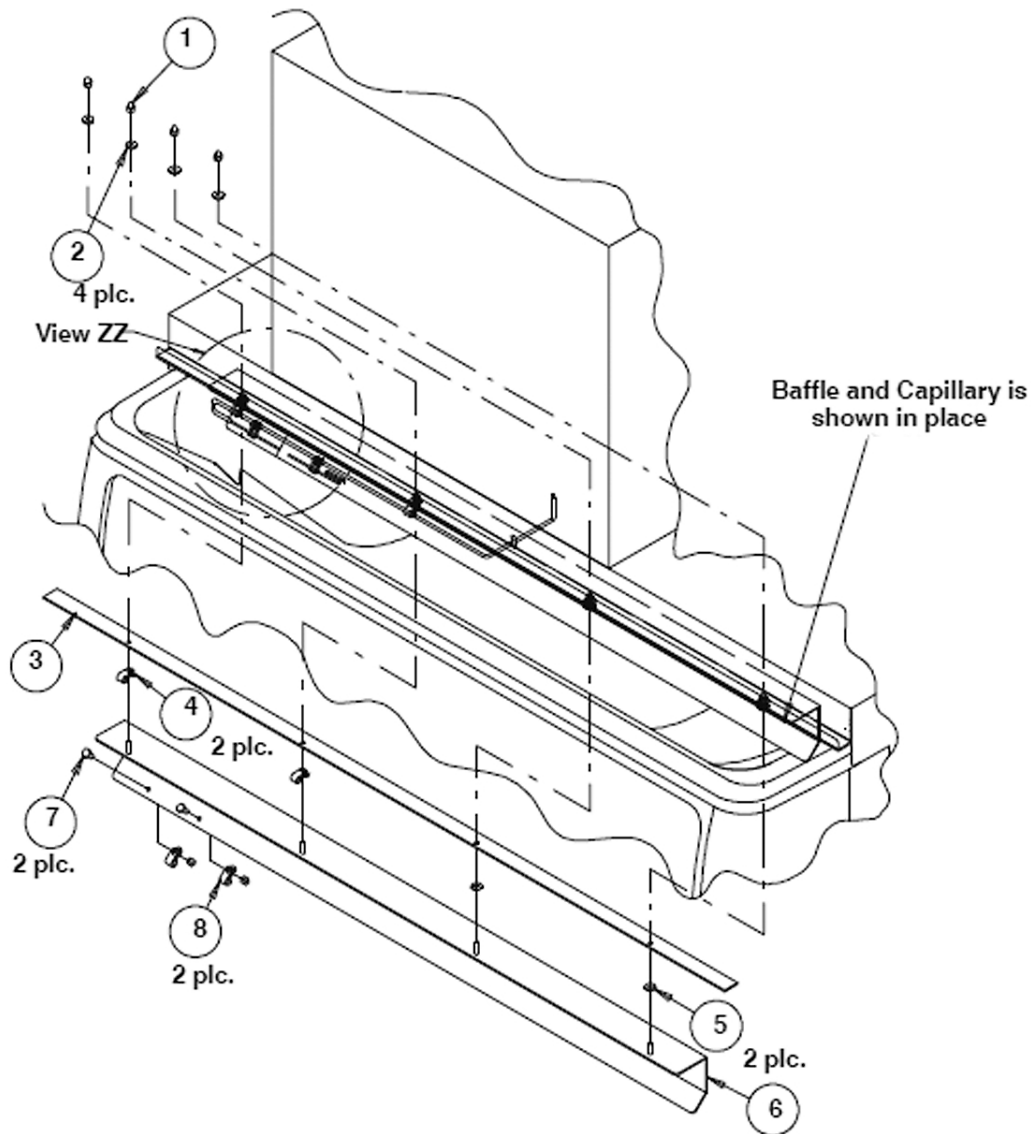
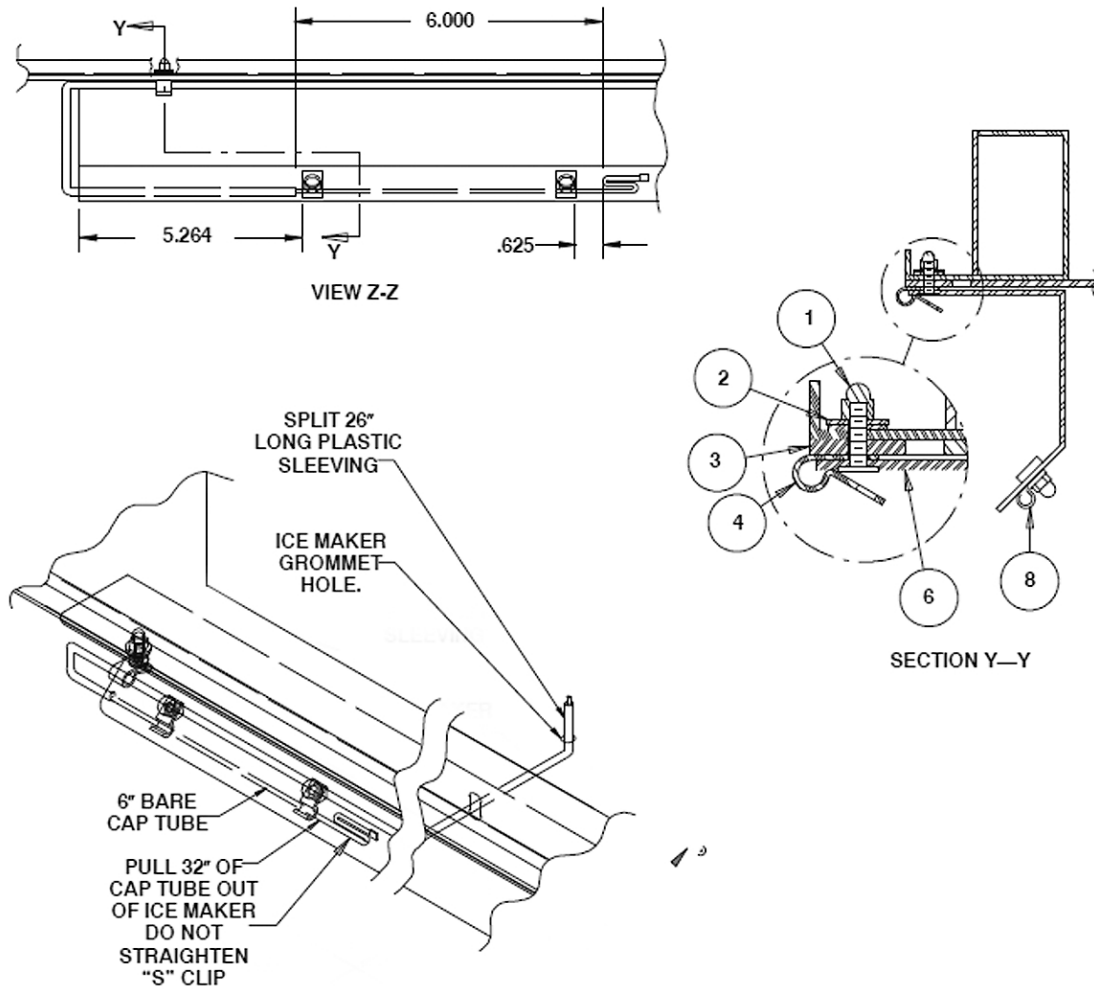

Figure 1. ED300 Baffle Kit
Figure 2. ED300 Baffle Kit Details
Refer to Figure 1 and Figure 2
3. Use plastic insulation strip (item 3) as a drill template. Place edge of template flush with front edge of "J" channel and center left to right on adapter. Tape in place.
4. Drill (4) 3/16" diameter holes using care to catch and remove all metal shavings from the dispenser.
7. Pull 32" of capillary out of bottom of the ice maker. Slit and place plastic sleeve (item 9) over the capillary tube leaving 6" of bare capillary tube exposed between capillary "S" bend and sleeving.
8. Assembly (2) 1/8" plastic clamps (item 8) to the back side of the SS baffle (item 6) with (2) 8-32 x 3/8" screws (item 7) and plastic acorn nuts (item 1). Do not tighten.
9. Pull capillary tube through 5/8" slot in baffle as shown in Figure 1 and Figure 2.
10. Position (2) 1/4" plastic clamps (item 4) on first (2) studs of SS baffle (item 6) and (2) plastic flat washers (item 5) on remaining (2) studs as shown in Section YY.
11. Place plastic insulation strip over the (4) studs and insert baffle assembly into the adapter lid.
12. Place (4) sealing washers (item 2) over studs and fasten in place with (4) plastic acorn nuts (item 1).
13. Route and form capillary as shown in Figure 1 and Figure 2. Tighten (2) plastic clamps (8-32 x 3/8" screws) to hold capillary tube in place.